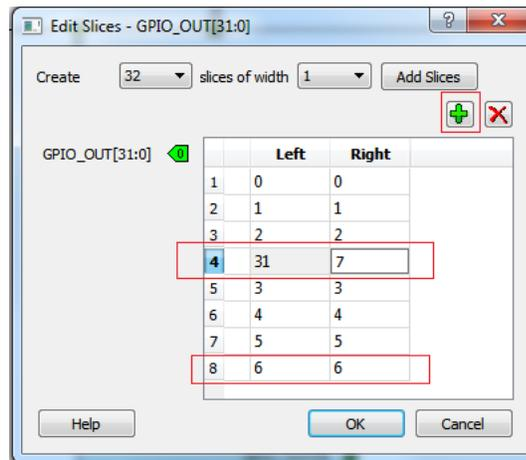

Figure 48 • Configuring GPIO_OUT[31:0]
- To add GPIO_OUT[6] to MPM_GPIO_Regulator_Enables, configure GPIO_OUT[31:0] as shown in Figure 48.